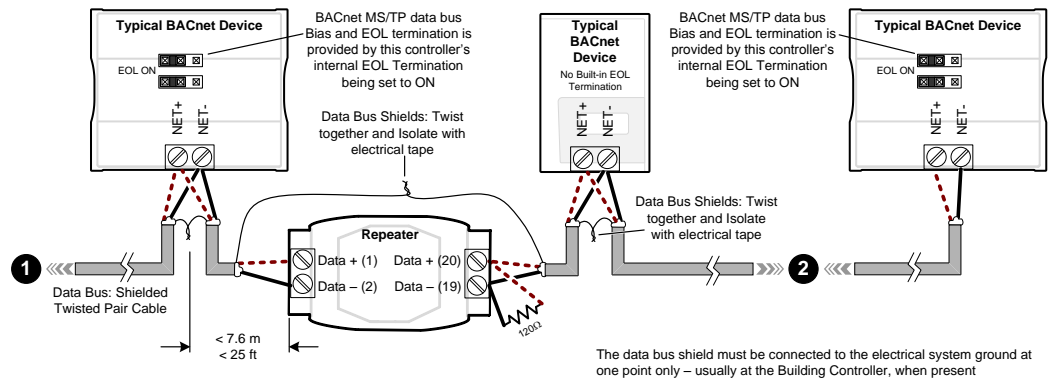

Figure 11-14: Repeater Connections when it is the First or Last Device on its Respective Data Bus Segment
1. On the BACnet MS/TP data bus segment ❶ shown in Figure 11-14, bias and EOL termination is provided by a controller's built-in EOL termination being set to ON. In this case the connection to the repeater cannot be more than 7.6 meters (25 feet) from this controller.
2. On the BACnet MS/TP data bus segment ❷ shown in Figure 11-14, a 120Ω EOL Termination resistor is added to the repeater's terminals. Biasing for this BACnet MS/TP data bus segment is provided by the built-in EOL termination being set to ON at the last controller at the other end of this data bus.
See When to Use EOL Terminations on page 116 for more information. The shield of one data bus must be grounded at one point as specified in Data Bus Shield Grounding Requirements on page 119. The shields of the two data buses must be connected together and isolated with electrical tape as shown in Figure 11-14. Refer to the controller's Hardware Installation Guide for how to identify and set a controller's built-in EOL terminations.